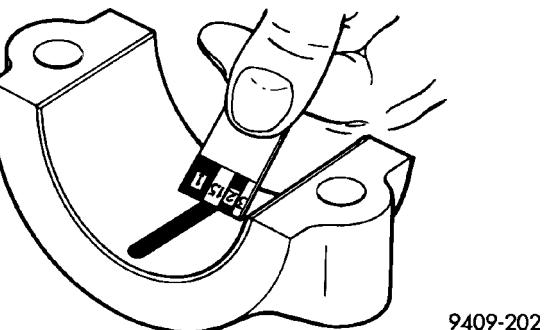

Fig. 71 Clearance Measurement
(5) Remove the bearing cap and compare the width of the flattened Plastigage (Fig. 71) with the scale provided on the package. Locate the band closest to the same width. This band shows the amount of clearance in thousandths. Differences in readings between the ends indicate the amount of taper present. Record all readings taken. (Refer to 9 - ENGINE - SPECIFICATIONS) **Plastigage generally is accompanied by two scales. One scale is in inches, the other is a metric scale.**
(5) Carefully remove the bearing cap and measure the width of the Plastigage at the widest part using the scale on the Plastigage package (Fig. 71). Refer to Engine Specifications for proper clearances (Refer to 9 - ENGINE - SPECIFICATIONS). If the clearance exceeds the specified limits, replace the main bearing(s) with the appropriate size, and if necessary, have the crankshaft machined to next undersize.